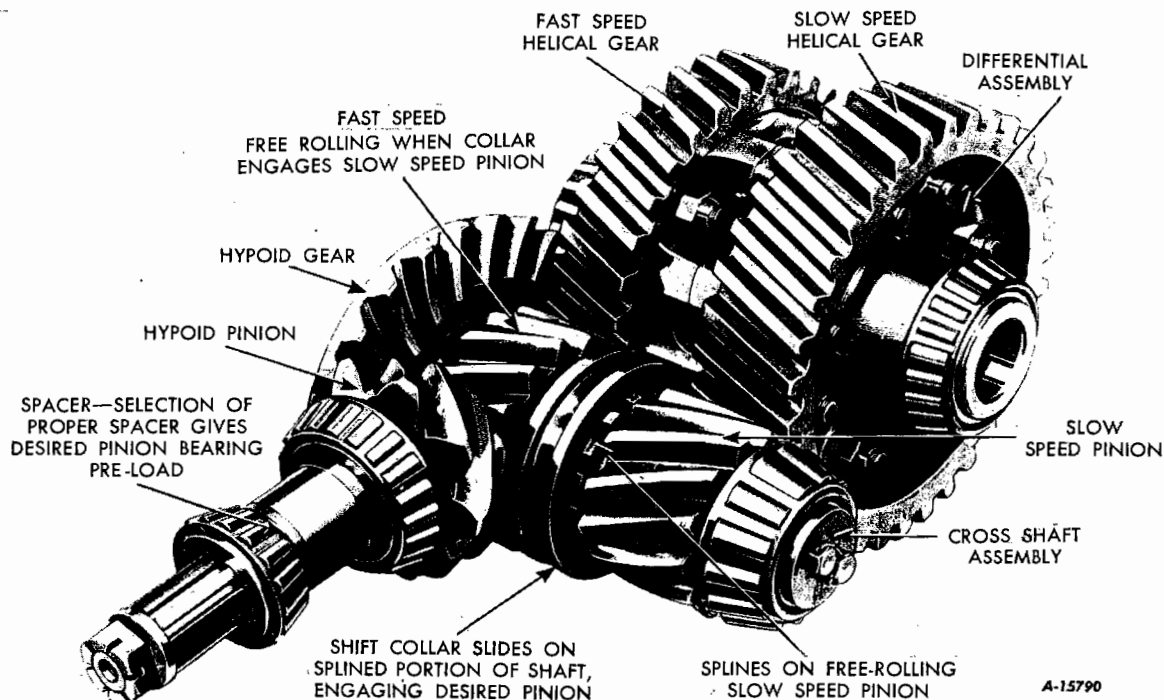

Fig. 1 - Two-speed Double-Reduction Drive Unit
1. Remove inspection and oil filler plug (Fig. 1) and fill to level of plug hole with specified lubricant. Capacity for the R-100 axle is 30 pints (30 lbs.). Capacity of the L-100 axle is 23 pints (23 lbs.).
The pinion and bearings are installed in the pinion cage with a pre-load secured by following the instructions under Pinion Bearing Pre-Load, Sec. A. The pre-load is controlled by proper selection of spacers, or combination of spacers, located between the outer pinion bearing and bearing seat on the pinion shaft (Fig. 1). These spacers are ground to close tolerances and are available in graduated thicknesses. Thicker spacers decrease bearing pre-load and thinner spacer increase bearing pre-load. For correct procedure see pinion bearing adjustment for correct pre-load, Sec. A.